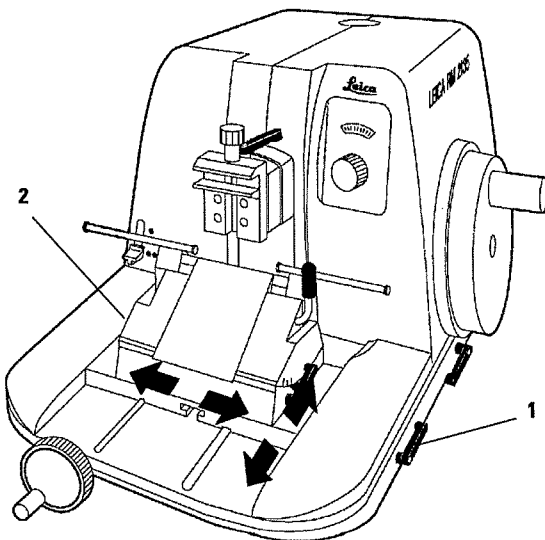

Fig. 17.3
- To release, turn the clamping lever (2 not visible in Fig. 17.3) on the left of the knife holder clockwise.
- To secure, turn the clamping lever (2) counterclockwise.